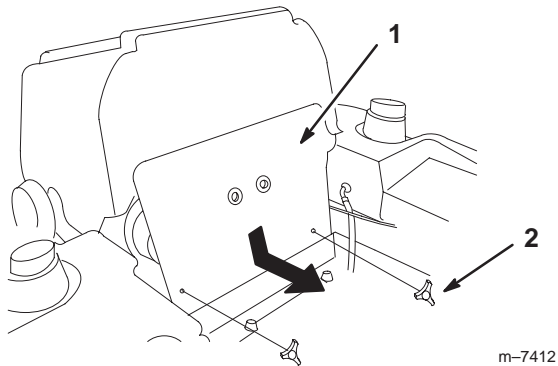

Figure 42
3. Tilt the seat forward and remove the front engine panel (Fig. 42).
5. Install the front engine panel (Fig. 42).
1. Tilt the seat forward and remove the front engine panel (Fig. 42).